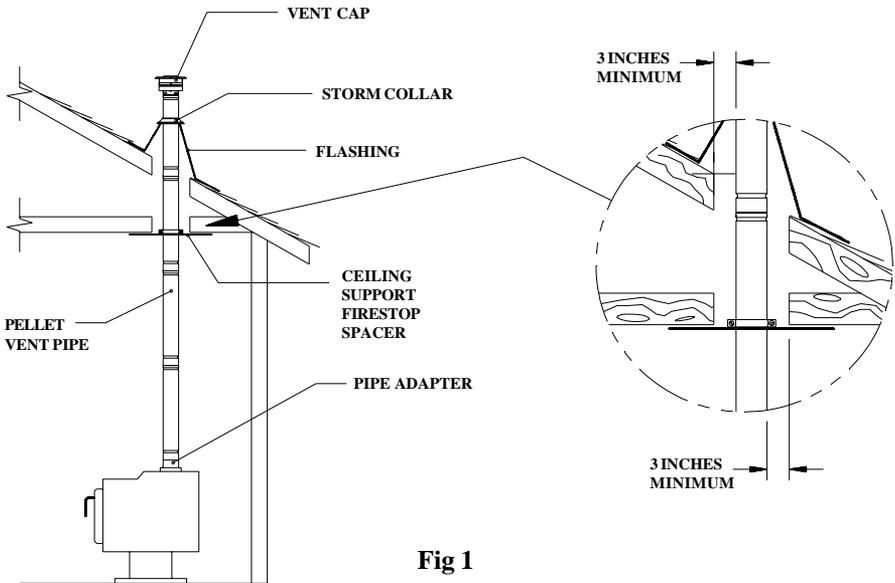

Fig 1
2. If the vent exit is on top of the stove: (Figure 1)